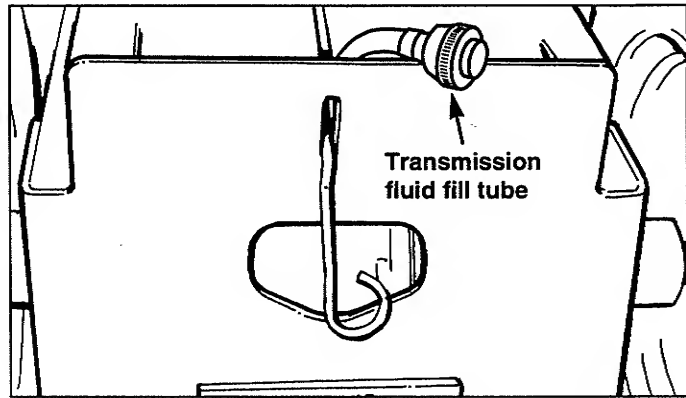

Figure 26B. Transmission Fluid Fill Tube Located at Rear of Tractor
Transmission fluid should be checked with the engine off. Remove plug (figure 26A). Fluid level should be to the bottom of the hole. If fluid level is low, add fluid (10W 40 oil) to the fill tube (figure 26B) until proper level is reached, then reinstall drain plug.
3. Add 10W 40 oil (76 oz.) to the transmission fluid fill tube (figure 26B) until oil just starts to run out of the oil port (figure 26A). Reinstall oil port plug.